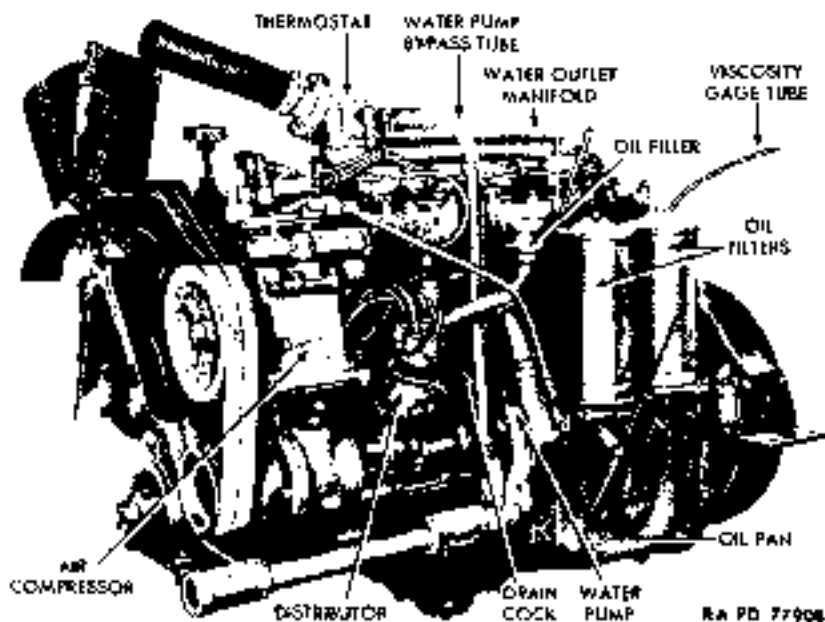

Figure 11 - Engine - Left Front
**a. Description (figs. 11 and 12).**
(1) The engine is a Hercules RXC 6-cylinder internal combustion gasoline engine of the "L" head type. The crankcase is cast integral with the block. Full length water jackets provide maximum cooling efficiency. A seven-bearing counterbalanced crankshaft is fitted with brass-backed replaceable type bearings. It has forged steel rods and cam ground, aluminum alloy pistons. The exhaust valve seats are a heat-treated cast-iron alloy. Water is drawn from the radiator by a gear driven pump, then forced through a long water manifold into the engine. A water bypass tube, which leads from the water connection on the front cylinder head to the coupling connection at the water pump, provides adequate circulation of the cooling fluid when the thermostat is closed. The engine is supported in the chassis by a three-point rubber mounting. The rear support arms are cushioned on brackets riveted to the side frame members. The trunnion type front support bracket, bolted to the engine support crossmember, permits the engine to pivot slightly with the torsional twist of the frame when the vehicle is being operated over rough ground.
**a. Drain Cooling System.** Open the two drain cocks, one of which is located on radiator outlet elbow, the other on the side of cylinder block above the water pump (fig. 11).